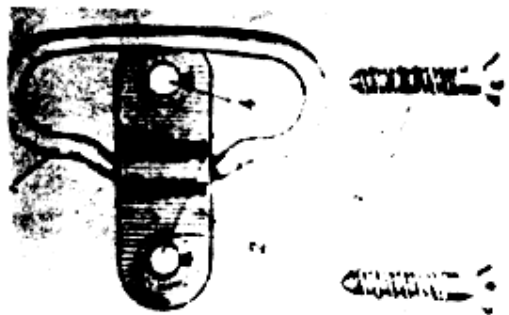

Figure 52. Swivel (assy. 5-1).
The swivel (fig. 52) attaches the sling to the butt. It consists of a ring (1) and base (2). The base has two holes (4) for screws (3) which hold the swivel to the butt.